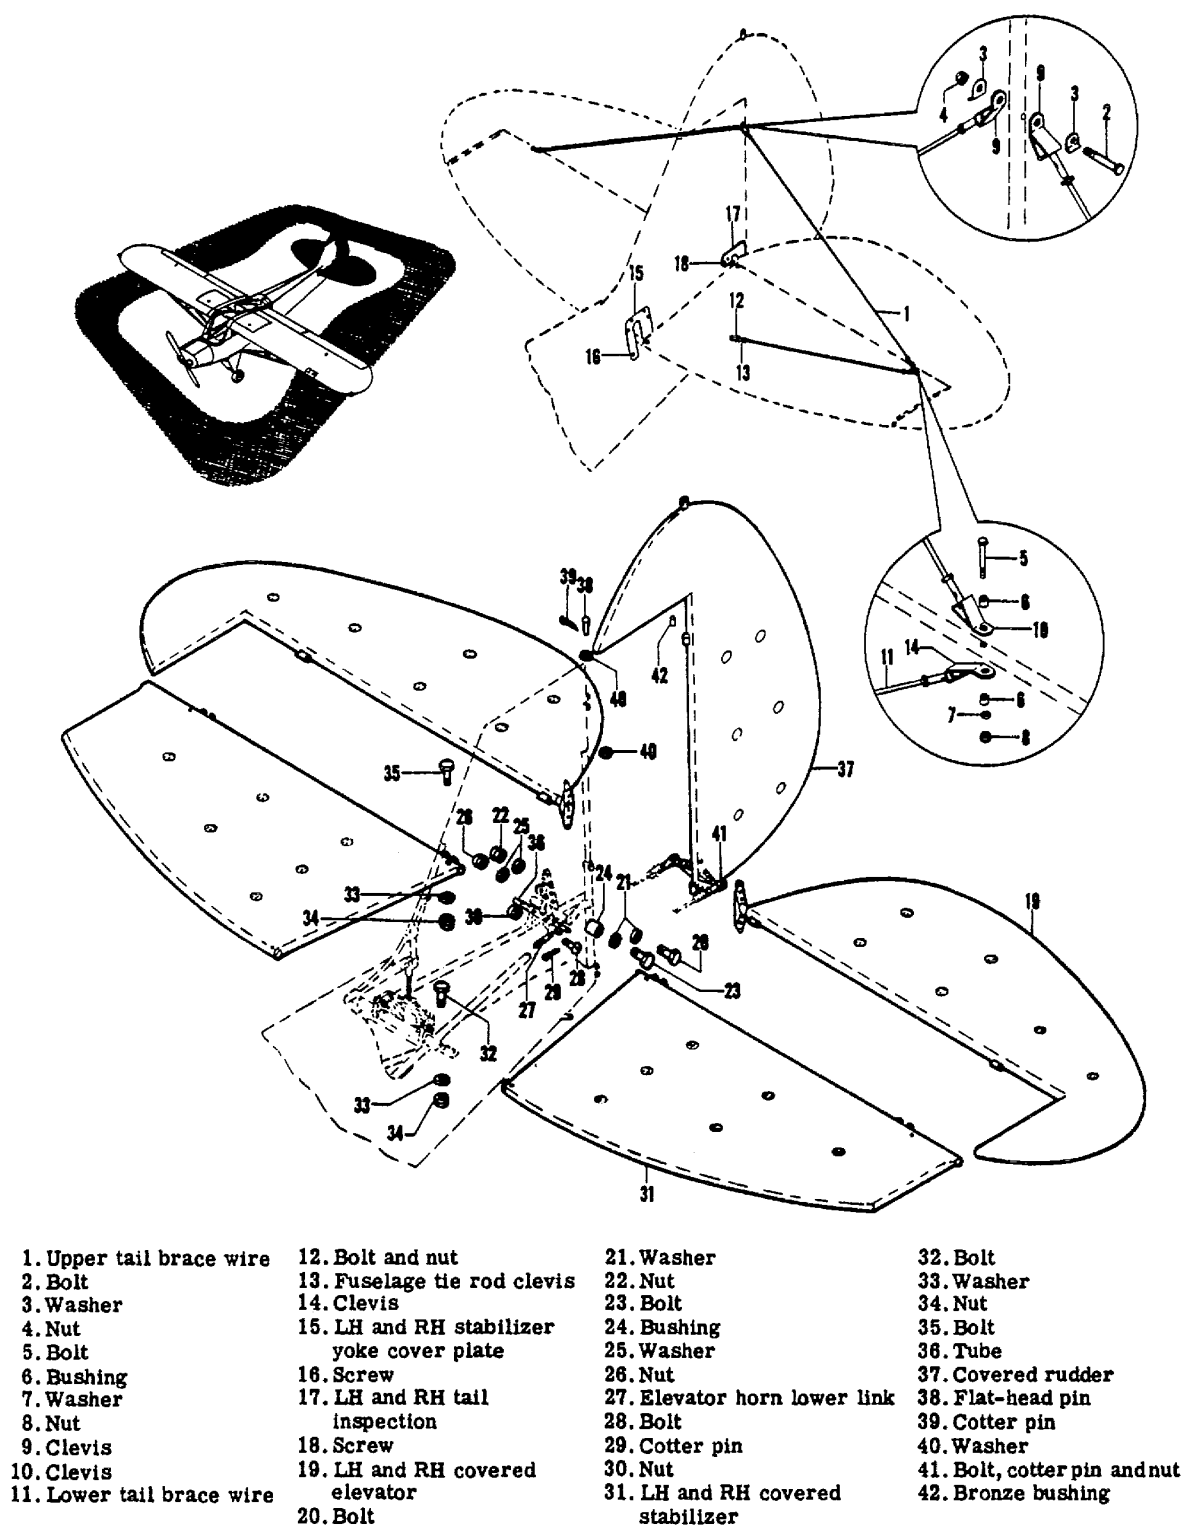
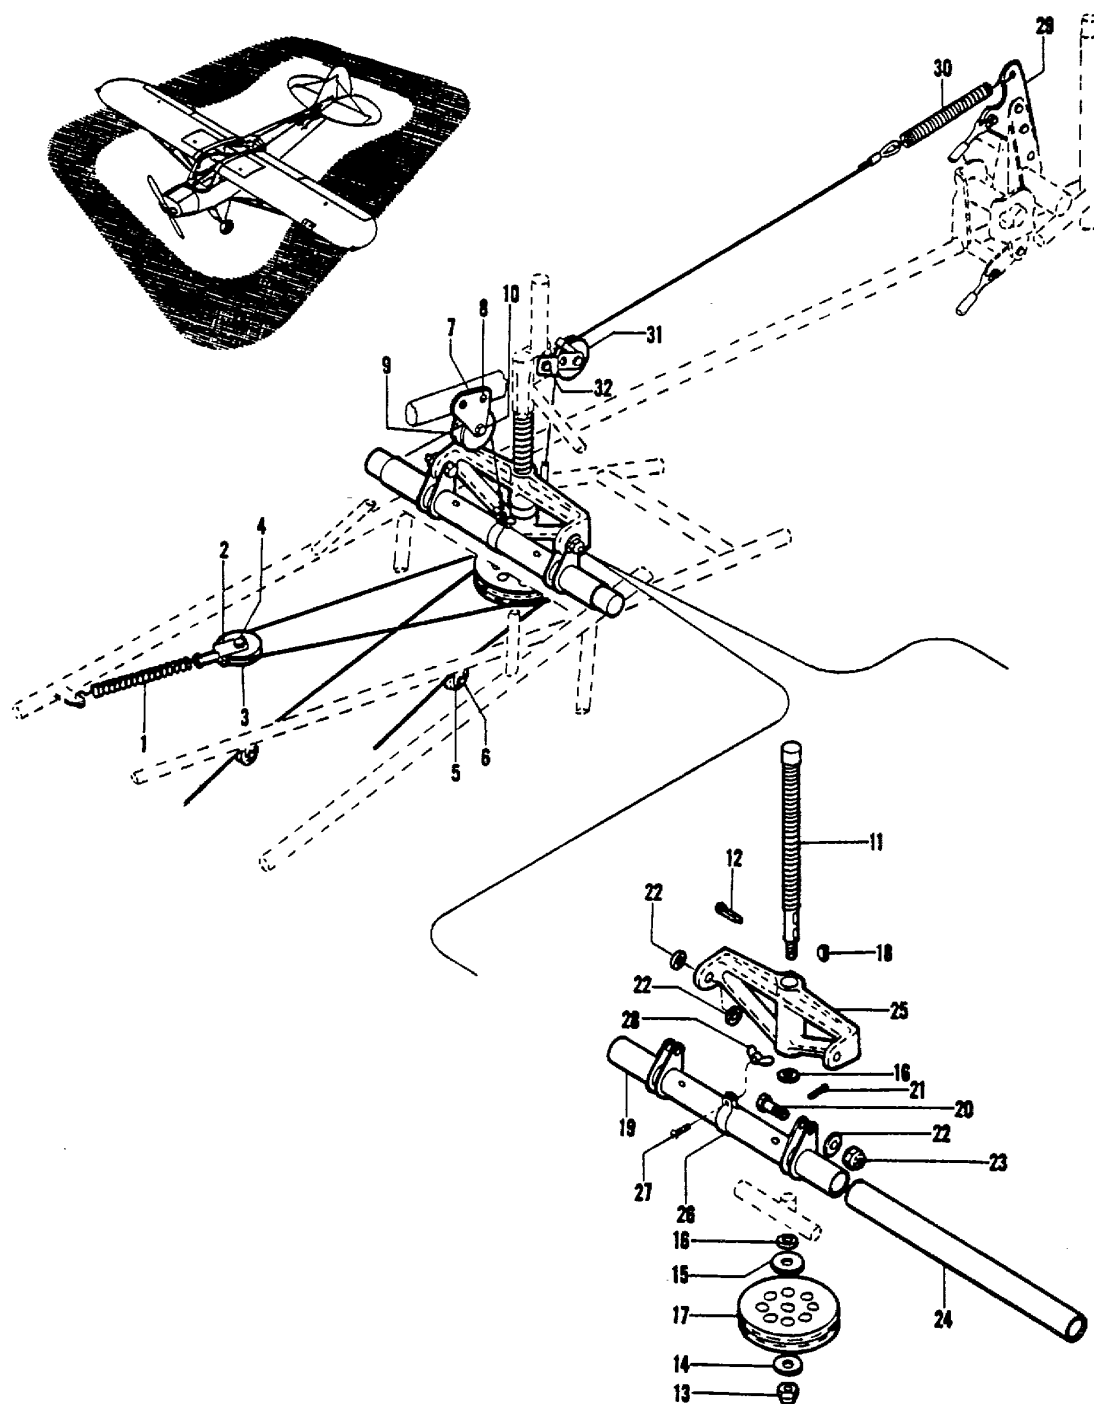

Figure 2-15. Tail Surface Installation
Figure 2-16. Stabilizer Adjustment Yoke and Bungee Installation
semblies (1 and 11, figure 2-15) for damage such as deep scratches or cuts. Replace damaged wire assemblies.
f. Inspect the fin for sturdiness. Check that the attaching bolts are properly safetywired (figure 2-15).
2-48. INSTALLATION OF STABILIZER ADJUSTMENT YOKE AND BUNGEE INSTALLATION. (See figures 2-15 and 2-16.)
- a. Position the stabilizer yoke (25, figure 2-16) and insert stabilizer adjustment screw (11) into it through hole A in the fin leading edge fairing (shown in figure 2-16). Thread stabilizer adjustment screw (11) through washer (16). Position the control cable on pulley (17)
according to figure 2-16 and assemble washers (15 and 16), stabilizer screw key (18), pulley (17), washer (14), and nut (13) on stabilizer adjustment screw (11). Lock the assembly with cotter pin (12).
b. Attach link (19) to the stabilizer yoke (25). Lock the assembly with cotter pin (21). Assemble indicator wire (33) to link (19).
c. Lubricate stabilizer adjustment screw (11) with a thin coat of grease, Specification No. AN-G-6, and apply a few drops of oil, Specification No. AN-O-6 to the oil holes in the link (19).
d. Reassemble the elevator horn cable (34) to the stabilizer yoke assembly (25). Reassemble pulley (31) to its housing after positioning the cable (34). Reassemble bungee spring (1) and pulley (3) to the stabilizer adjustment yoke (25).
e. Reassemble LH and RH stabilizer yoke cover plates (15, figure 2-15) to the fuselage.
2-49. INSTALLATION OF STABILIZER. (See figures 2-15 and 2-16.)
a. Position and assemble the LH and RH covered stabilizer (31, figure 2-15) to the stabilizer yoke (25, figure 2-16) and onto the rear stabilizer-to-fuselage link tube (36, figure 2-15). Secure with bolts (32 and 35, figure 2-15) and nuts (34). See Table III for proper torque values on bolts.
b. Reassemble the upper tail brace wire (1, figure 2-15) and lower tail brace wire (11).
2-50. INSTALLATION OF ELEVATOR. (See figure 2-15.)
a. Carefully assemble the LH and RH covered elevator (19, figure 2-15) and fasten the elevator horn cable (34, figure 2-16) and elevator horn spring (30) to the elevator horn upper link (29).
b. Connect bolts (20 and 23, figure 2-15). See Table III for proper torque value on bolts. Make sure that the connections pivot freely.
c. Reassemble LH and RH tail inspection panel (17, figure 2-15) to the fuselage.
2-51. INSTALLATION OF RUDDER. (See figure 2-15.)
a. Position the covered rudder (37, figure 2-15) to the fin and fasten with flat-head pin, cotter pin, and washer (38, 39, and 40 respectively), and with bolt, cotter pin, and nut (41).
Legend for Figure 2-16.